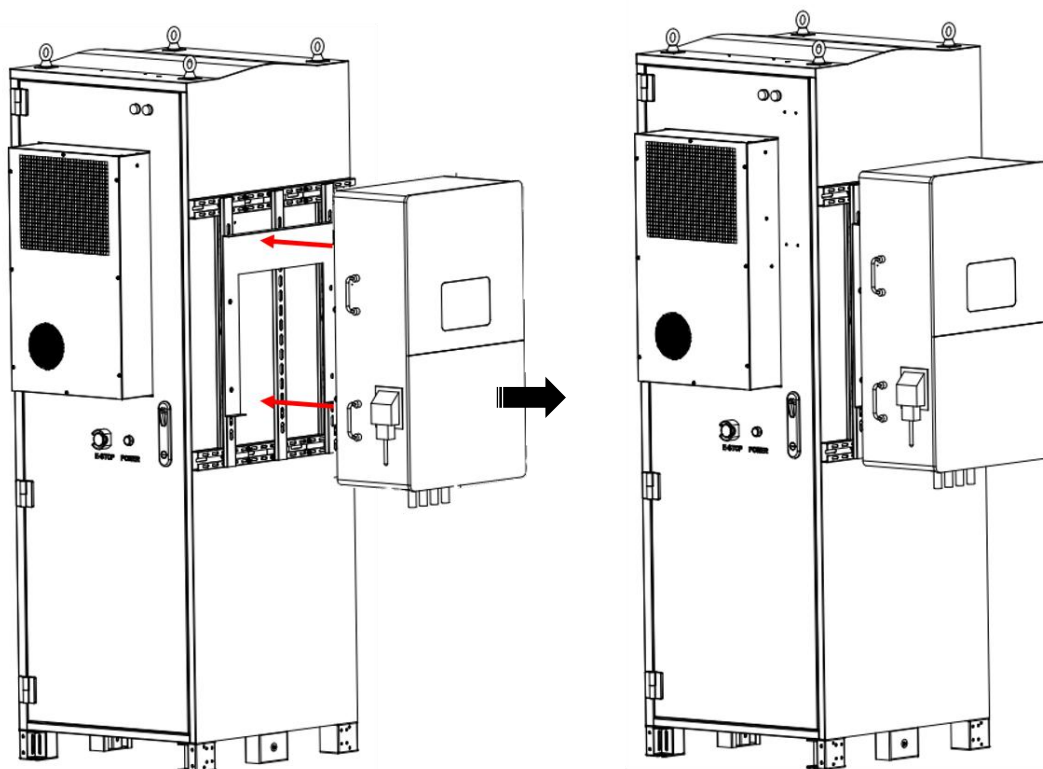

Figure 3.2.13
(2) Hook up the inverter to the bracket and fasten the inverter according to the inverter's professional user's manual (Fig. 3.2.13).